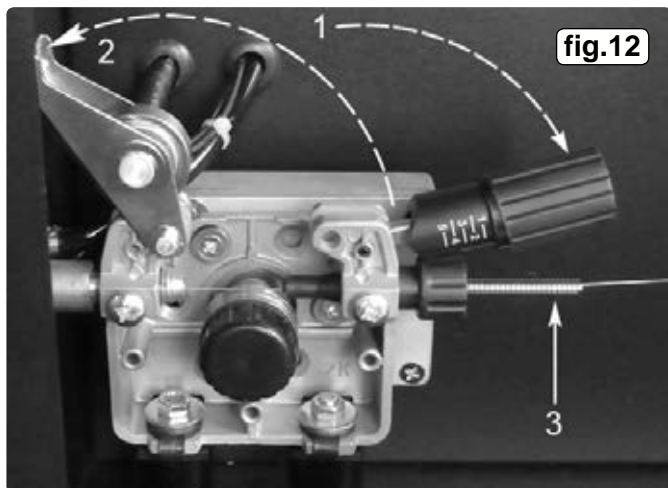

fig.12
- 4.9. **FEED WIRE THROUGH TO TORCH.** Referring to fig.12 open the wire feed mechanism by pushing the locking/wire tension knob (1) down to the right allowing the pressure roller carrier (2) to spring up revealing the feed roller. Ensure that the required feed groove (0.6 or 0.8) is in line with the wire path. See Section 4.12 on how to reverse or change the roller.
- 4.12.1 Referring to fig.12, open the wire feed mechanism by pushing the locking/wire tension knob (1) down to the right allowing the pressure roller carrier (2) to spring up revealing the feed roller.
- GAS CUP** The gas cup must also be kept clean and free from spatter. Build up of spatter inside the gas cup can cause a short circuit at the contact tip which will result in either the fuse blowing on the printed circuit card, or expensive machine repairs. To keep the contact tip free from spatter, we recommend the use of Sealey anti-spatter spray (MIG/722308) available from your Sealey Dealer. Refer to fig.12 and section 4.9 for removal and replacement.